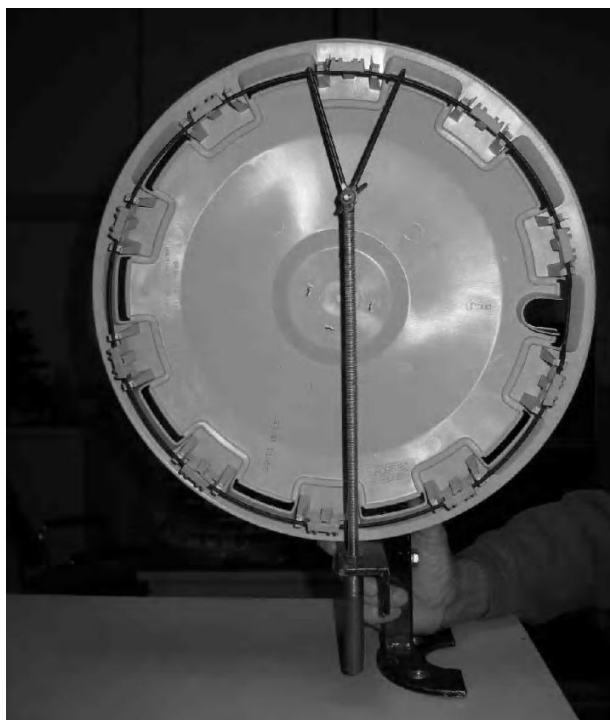

Figure 1: Fixture for Holding Wheel Cover and Wire Ring
**3.2.1** Fixture for holding wheel cover and wire ring. See Figure 1.
**4.1.1** The wheel cover must be installed in the fixture. See Figure 1.